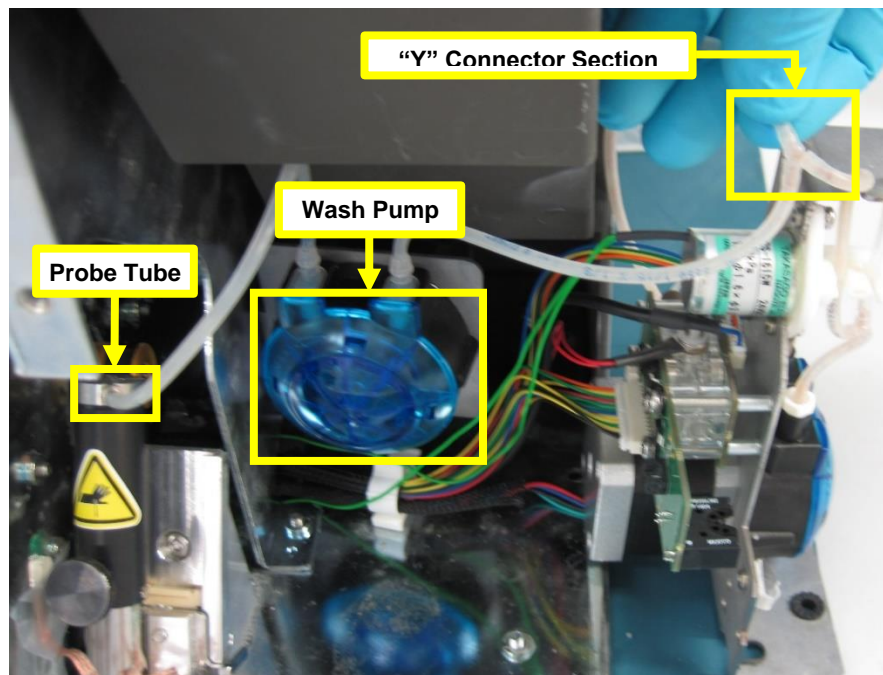

Figure 28
30. Disconnect the right side of wash pump tubing by removing it from the “Y” connector. Disconnect the tubing from the barb connector on the Probe Tube Figure 28